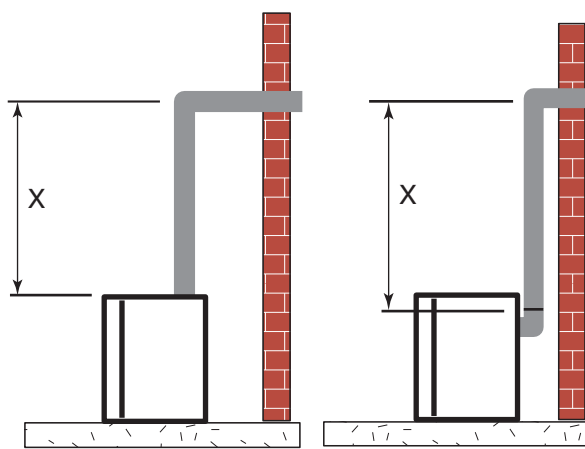

Figure 29 -
Place fireplace into position. Measure the vertical height (X) required from the base of the flue collars to the center of the wall opening. *Figure 29*